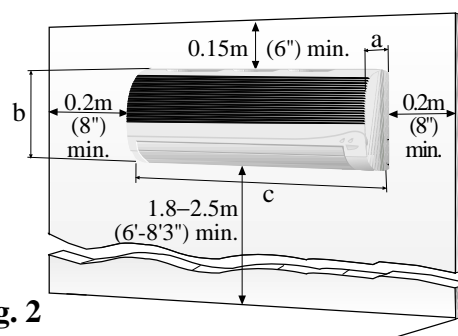

Fig. 2
- Make sure to leave sufficient space around the unit. See Figure 2 for minimum required distances between the unit and the ceiling, floor and surrounding walls.